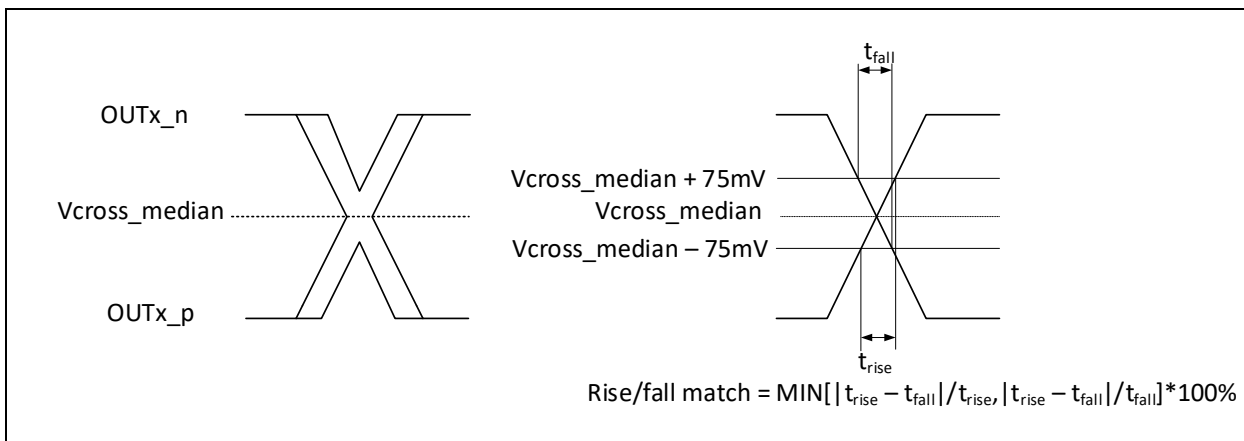

Figure 16. Single-Ended Measurement Points for Rise and Fall Time Matching
(12) Matching applies to rising edge rate for CK_x and falling edge rate for CK#_x. It is measured using a ±75 mV window centered on the median cross point where CK_x rising meets CK#_x falling. The median cross point is used to calculate the voltage thresholds the oscilloscope is to use for the edge rate calculations. The Rise Edge Rate of CK_x should be compared to the Fall Edge Rate of CK#_x the maximum allowed difference should not exceed 20% of the slowest edge rate. See Figure 16.
(13) Clock DC impedance tolerance depends only on the tolerance of external 50Ω shunt resistors used in HCSL. The test used resistors with +/-1% tolerance.
(12) Matching applies to rising edge rate for CKx and falling edge rate for CK#x. It is measured using a ±75 mV window centered on the median cross point where CKx rising meets CK#x falling. The median cross point is used to calculate the voltage thresholds the oscilloscope is to use for the edge rate calculations. The Rise Edge Rate of CKx should be compared to the Fall Edge Rate of CK#x the maximum allowed difference should not exceed 20% of the slowest edge rate. See Figure 16.